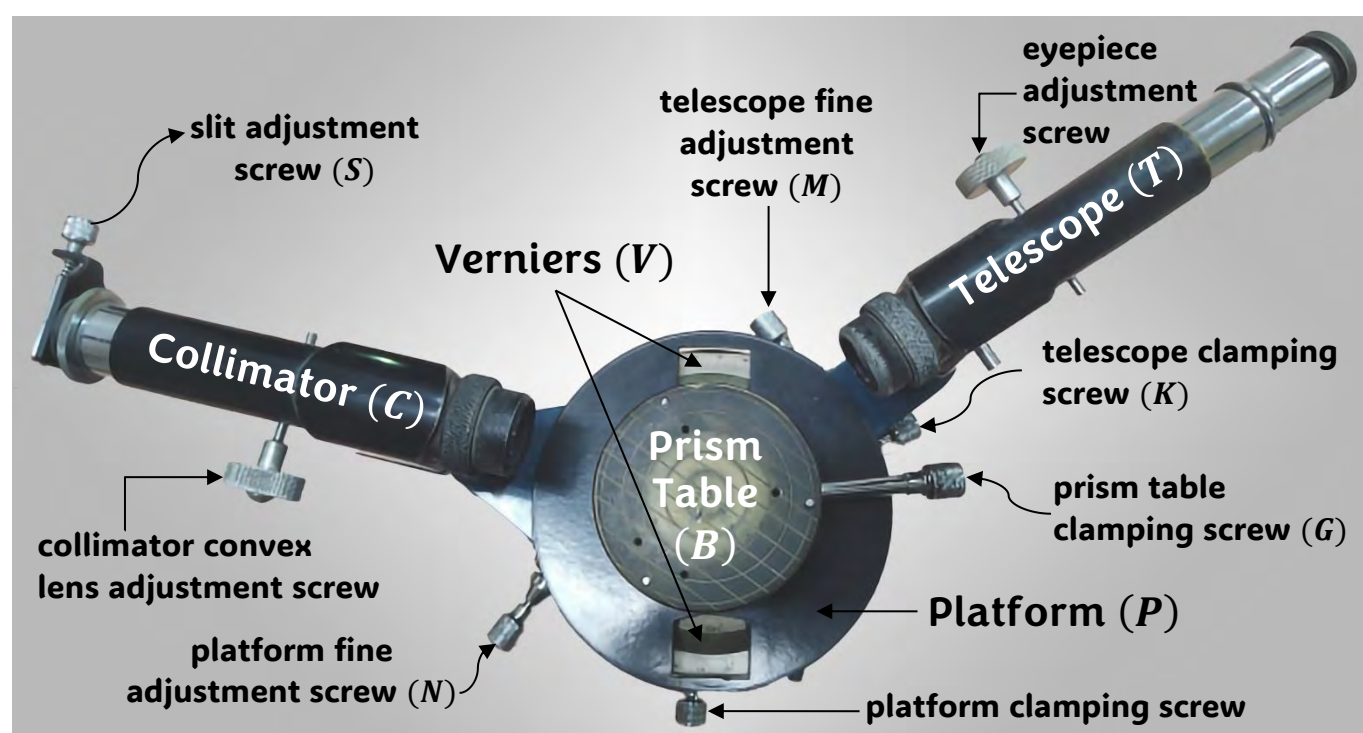

Fig. 4
→ The essential parts of a spectrometer (*see fig. 4*) are
- 2) Analyze *figs. 4 & 5* carefully. Locate and identify the collimator which has a slit on one end and the telescope, which has the eyepiece at its end.